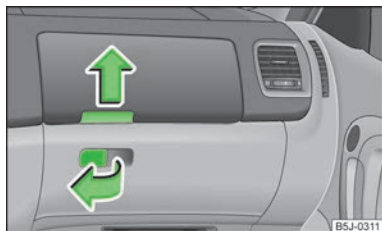

Fig. 61
- Pull the handle of the flap in the direction of the arrow » Fig. 61 and fold down the flap.